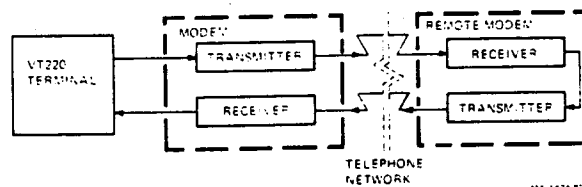

Figure 1-5 Remote Loop Test
After you make a connection with a remote modem (another VT22X, a Digital DF03, or an AT&T 212A with the Response to Digital Loop option enabled), pressing the **REMOTE LOOP** pushbutton on the *local* VT22X modem sends a signal that places the *remote* modem in a loopback state. The TEST indicator on the local modem will turn on. At this point, any data typed on the local VT220 keyboard is sent to the remote modem and looped back (Figure 1-5). Then you can check the data for accuracy. Run the remote loop test as follows.
8. Type a message on your keyboard. The data you type is sent to the remote modem. Then the data is looped back from the remote modem and displayed on your terminal (Figure 1-5). You can compare the received data with the transmitted data for accuracy.